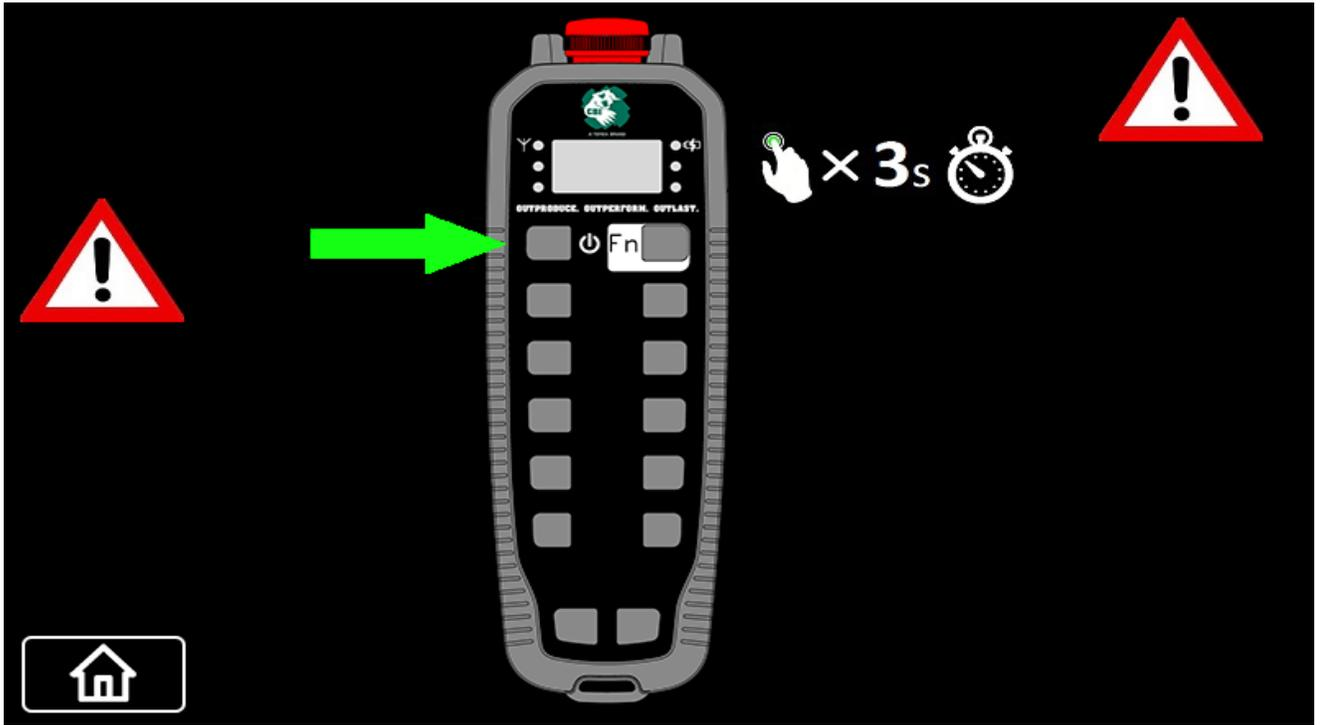

Figure 5.5 - Turn On Remote Control
- Grab the remote from the control panel enclosure and power it on by ensuring the emergency stop is not pulled and momentarily pressing the ON-OFF button. (Figure 5.5).